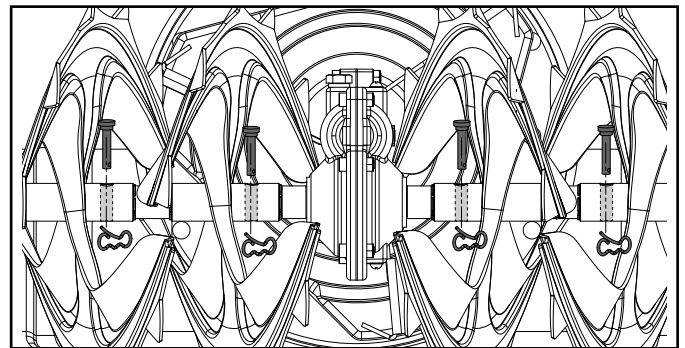
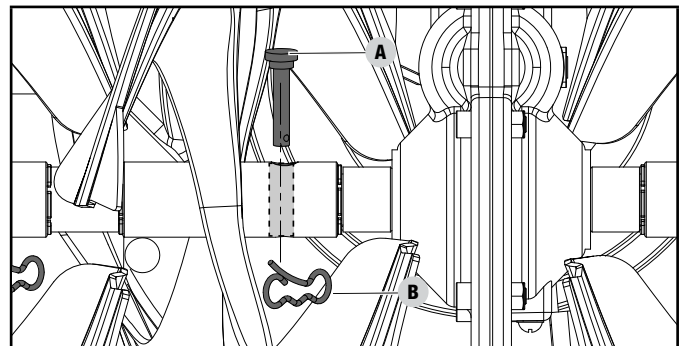
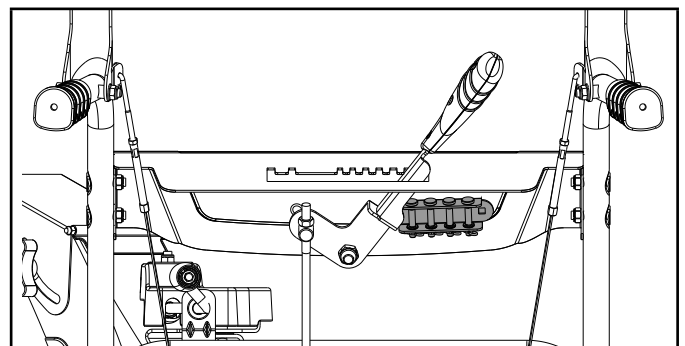

Figure 24A
Figure 24B
Figure 24C
The auger housing is shown as Fig. 24A. The augers are secured to the auger drive with shear pins (A) and clips (B) (Fig. 24B). If the auger should strike a foreign object or ice jam, the snowblower is designed so that the lock pins may shear.
If the augers will not turn, check to see if the lock pins have sheared (Fig. 24B). Replacement shear pin(s) and clip(s) are found on the back of the control panel (Fig. 24C).